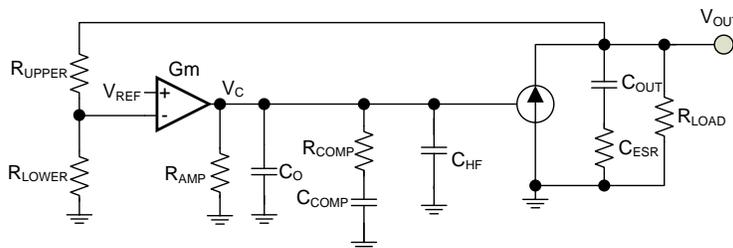

Figure 35. Transconductance Amplifier
A type II compensator using a transconductance error amplifier (EA), G_m, is shown in Figure 35. The dominant pole of the EA open-loop gain is set by the EA output resistance, R_{AMP}, and effective bandwidth-limiting capacitance, C_O, as follows: